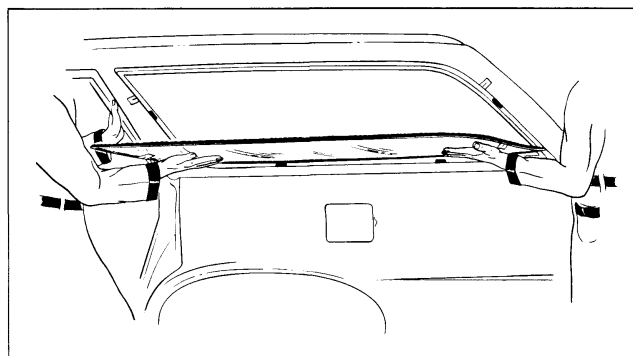
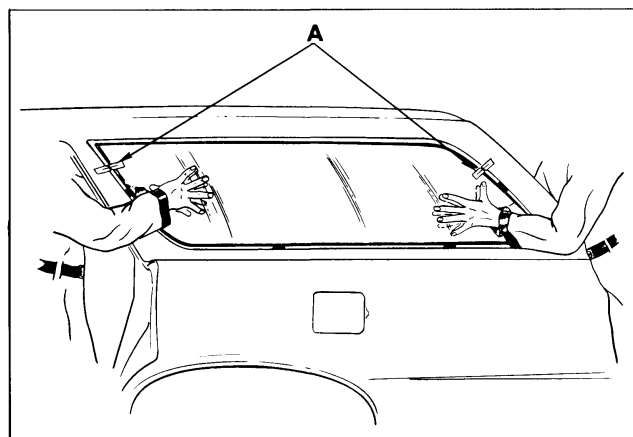

Fig. 13-14 Window Installation
Fig. 13-15 Window Installation
4. With aid of a helper, carry glass to body as shown in figure 13-14. Then, with helper supporting glass with both hands, reach one hand around body pillar and support glass while helper also reaches around pillar to assume position shown in Fig. 13-15. Position glass in opening by making contact along upper edge first, then swing in lower edge.
7. After final adjustments have been made and glass is in proper position, apply a piece of masking tape horizontally over front and rear edges of glass and body pillars (A, Fig. 13-15). Slit tape vertically at glass edge so that tape on glass can be aligned with tape on body and act as guide when glass is installed.
18. With the aid of a helper, carefully install glass as described previously in step 4 (Figs. 13-14 and 13-15). Make certain that glass sets properly on all spacers and does not have to be shifted after caulking material contacts pinchweld flange. Focus attention on tape guides that were applied to glass and body to properly align glass in opening.